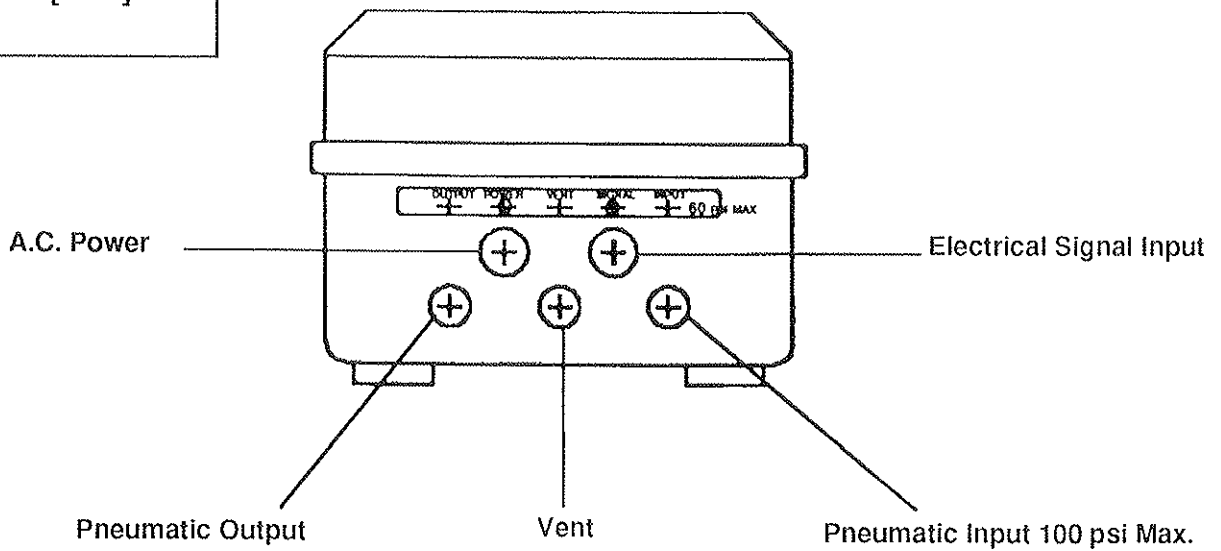

FIGURE 1
1. Mount the controller in a location that will allow access to the internal adjustments. See Figure 1 for mounting dimensions.
5. Corrosion resistant 3/8" O.D. tubing or 1/4" pipe is recommended for the air lines. Connect air supply to the right hand connection labeled "Input" and output to left hand connection labeled "Output". See Figure 1.